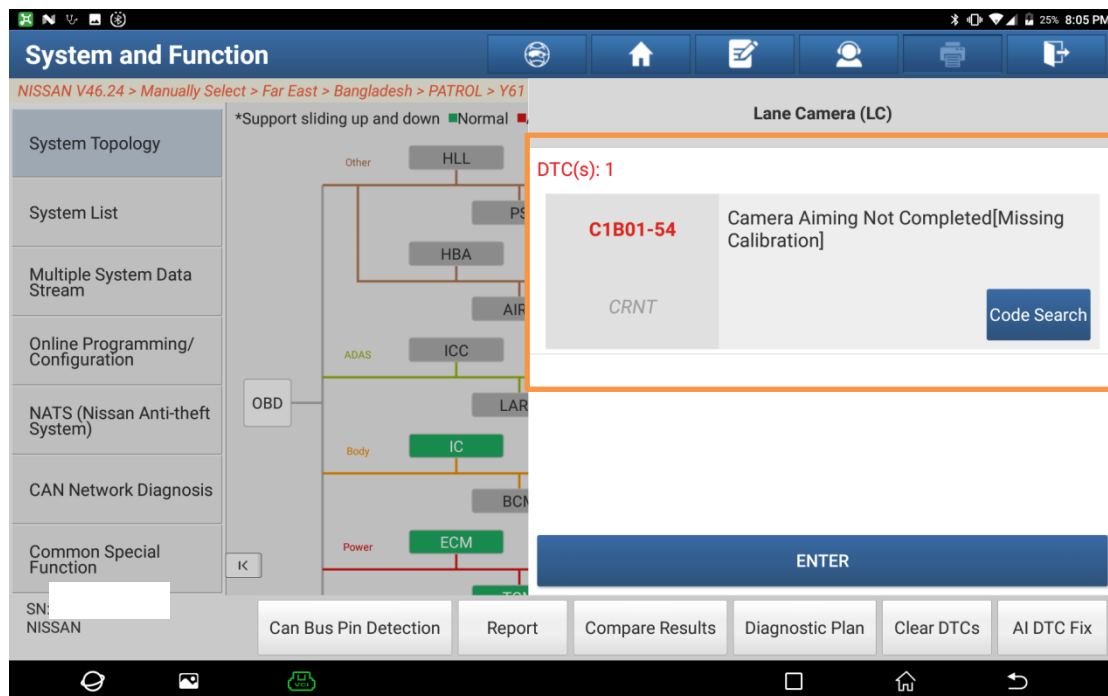

Figure 3
- In the vehicle model system interface, click [Smart Detection]. After the detection is completed, click [LC] in the system topological graph to display the DTC information. See Figure 3.